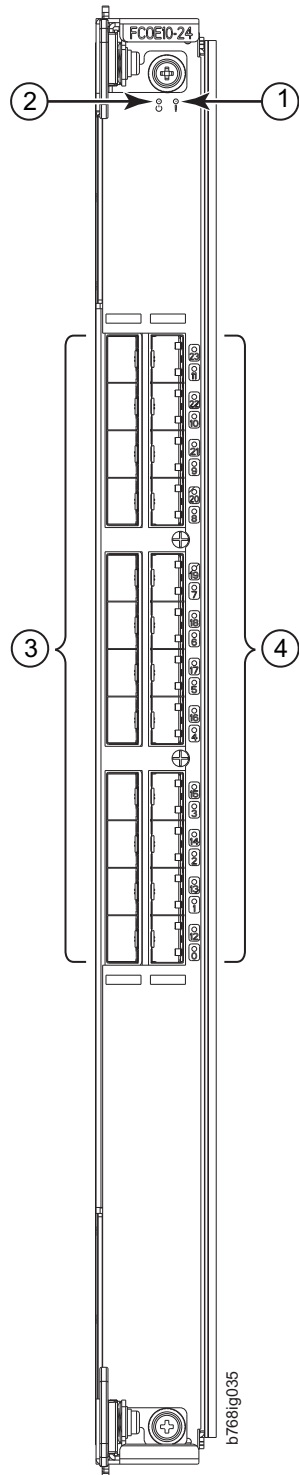

Figure 57. FCOE10-24 blade
- Figure 57 on page 155 shows the FCOE10-24 Fibre Channel over Ethernet blade